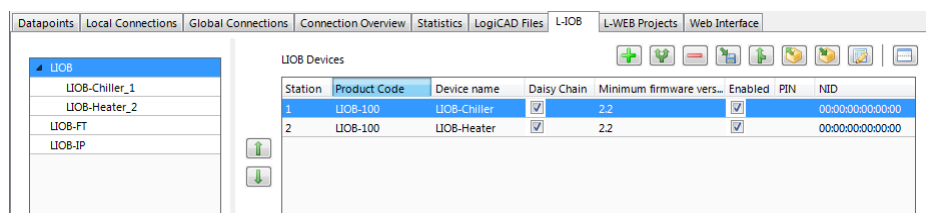

Figure 5: Add L-IOB devices to the LIOB-Connect bus
1. Add L-IOB devices on the **L-IOB** tab from the supplied L-IOB templates using the **Add Device(s)** button  as shown in Figure 5.